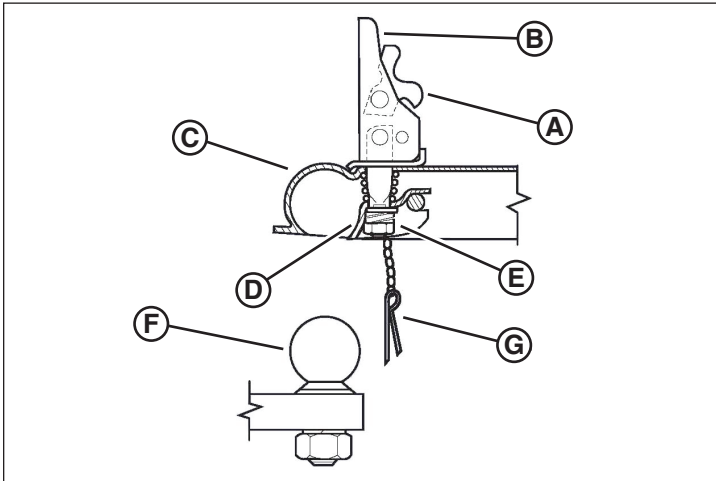

Figure 10
1. Pull up on the locking trigger (A, Figure 10), and lift the locking lever (B, shown lifted).
2. Adjust the coupler to the hitch ball (F, Figure 10) by pushing the channel lock (D) up, away from the adjusting nut (E).
4. Make sure the hitch ball is completely engaged in the coupler socket (C, Figure 10).
5. Push the locking lever down into the locked position. Insert the locking pin (G, Figure 10) into the hole in the locking lever, or use a padlock for added security.